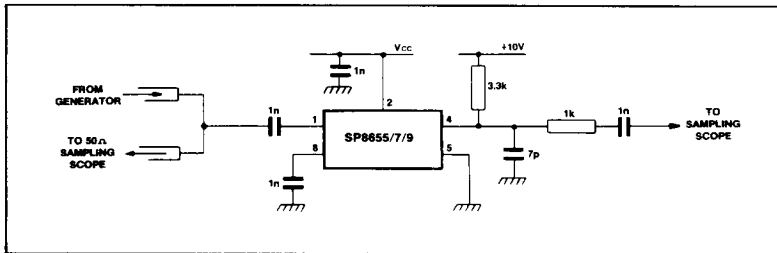

Fig.5 Test circuit
- The dynamic test circuit is shown in Fig.5.
- The rise time of the open collector output waveform is directly proportional to the load capacitance and load resistor value. Therefore the load capacitance should be minimised and the load resistor kept to a minimum compatible with system power requirements. In the test configuration of Fig. 5, the output rise time is approximately 20ns and fall time is typically 10ns.